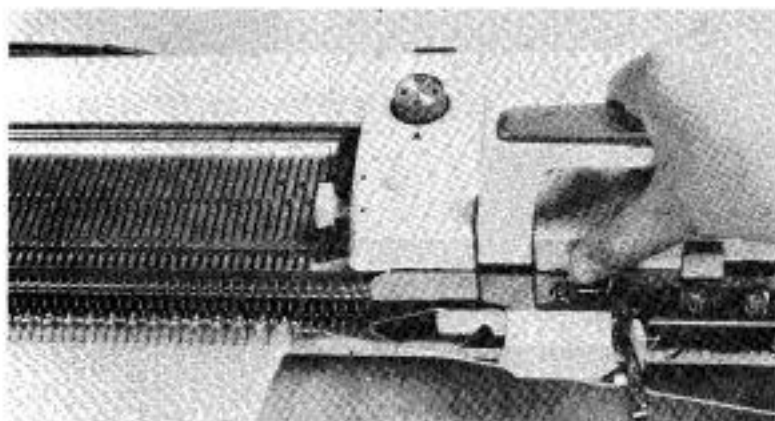

Fig. 129
- * 1st row With carriage on right, push back the two needles at the carriage end opposite numbers 2 and 4 on the N.S.G.S. into Position (B). Pull the feeder out of action and, pushing in the leading Needle Forwarding Lever (the left hand lever) move the carriage from right to left. (Fig. 129)